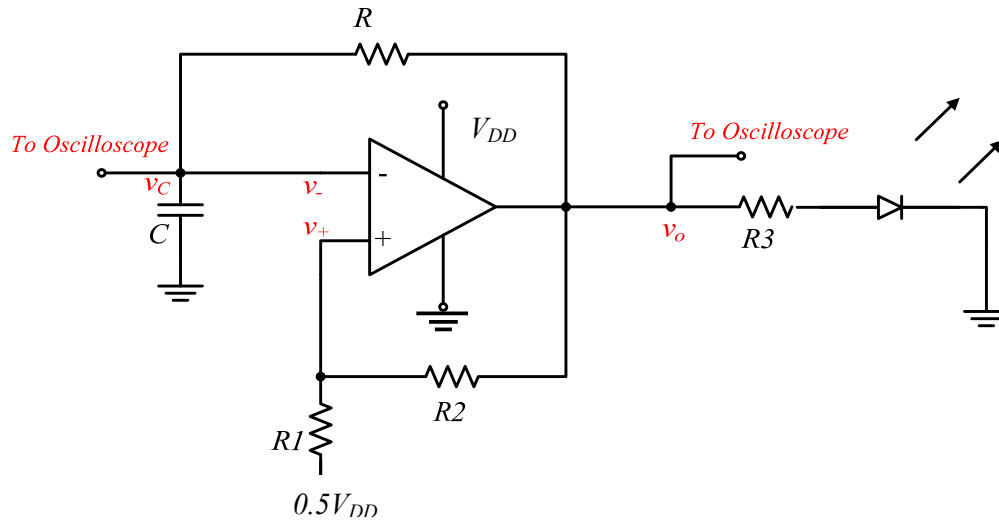

Figure 2: Circuit Diagram for the experiment
1. Build the circuit on breadboard as shown in Figure.2 with $R1 = 100k\Omega$, $R2=100k\Omega$.
6. Based on the circuit shown in Figure 2, proposed a slight modification that allows two LEDs to blink alternatively.